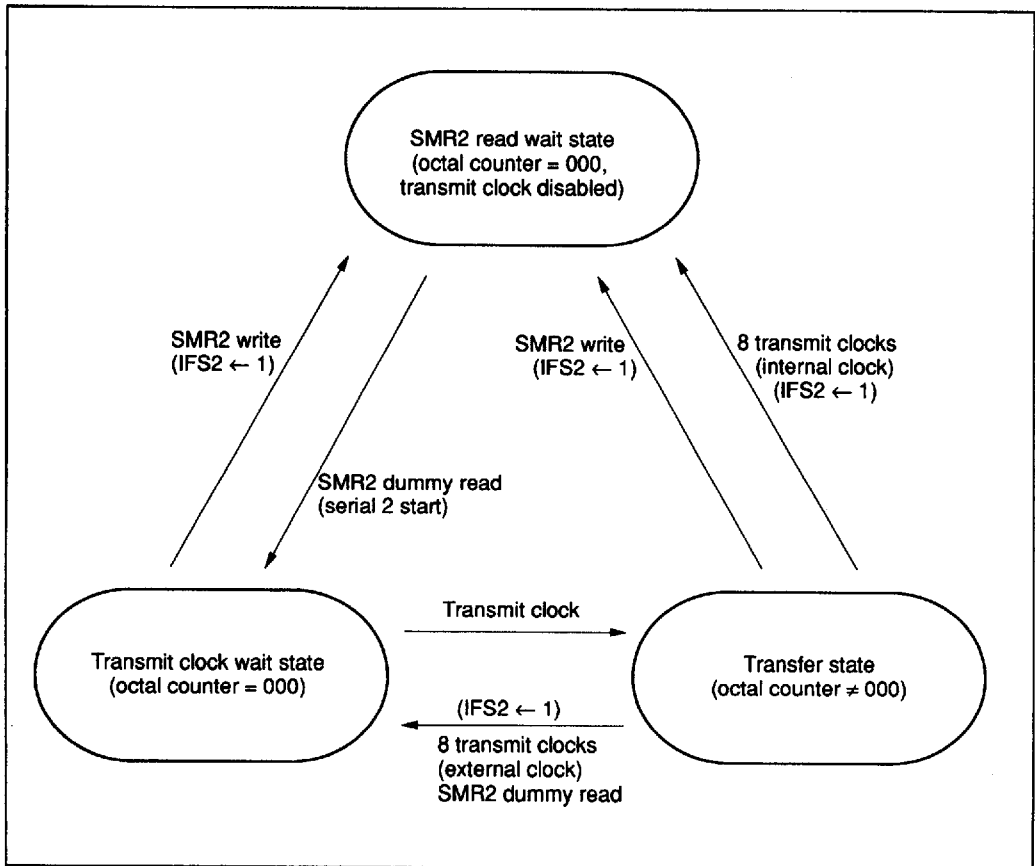

Figure 52 Serial Interface 2 Mode Transitions
**Serial Interface 2 Operation:** Three operating modes are provided for serial interface 2; transitions between them are shown in figure 52.